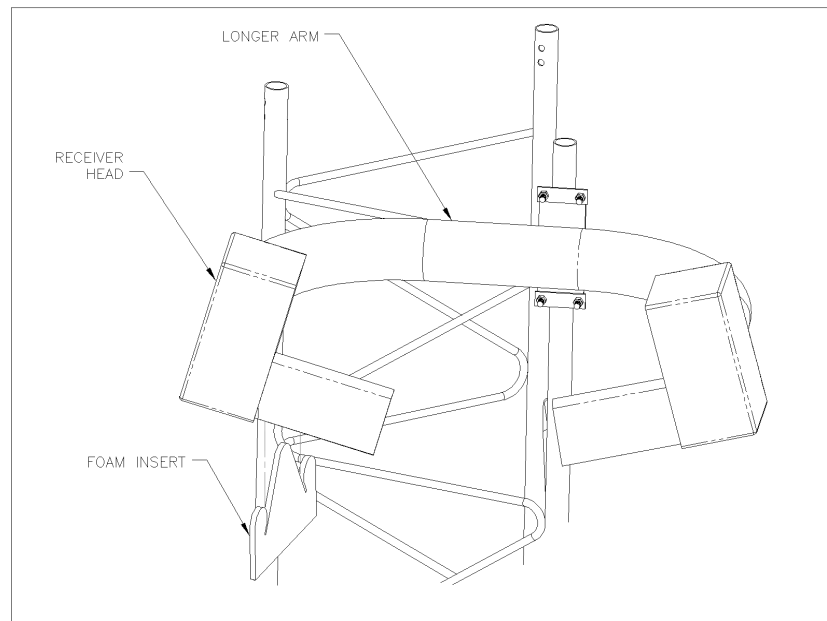

Figure 1-18. Visibility Sensor – Foam Insert Illustration
- a. Insert black foam filter in Test Set into Receiver hood against window. Receiver is on the longer arm (left arm when viewed from front) (see Figure 1-18).